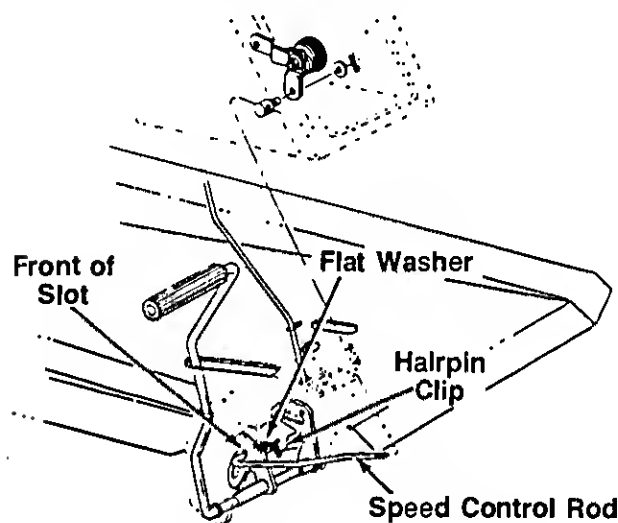

FIGURE 17.
7. Disconnect the speed control rod by removing the hairpin clip and flat washer. See figure 17.
9. Adjust the rod by threading it in or out of the ferrule until it is all the way to the front of the slot as shown in figure 17.